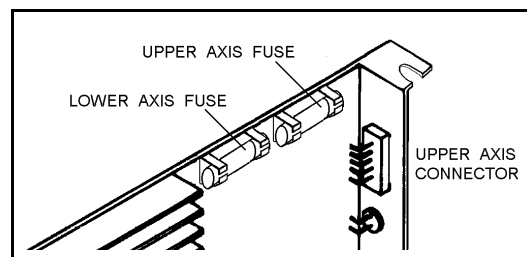

Figure 8-4: Driver Card Fuse
- Check the fuse on the top of the driver card for the faulty axis. (Refer to Figure 8-4). If the fuse has blown, replace it. (Earlier models of **Controller-A** have semi-automatic fuses on the driver cards; simply press the switch on those fuses to reset.)